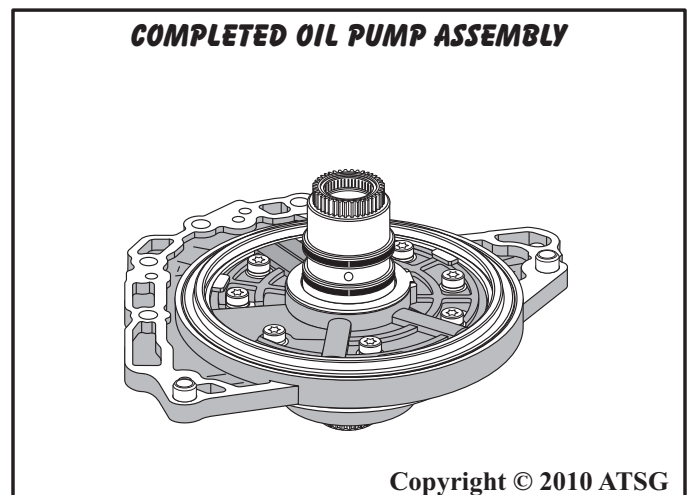

Figure 105
20. Lubricate seal rings with transaxle fluid and set completed oil pump aside for final assembly, as shown in Figure 105.